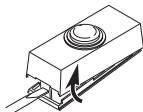
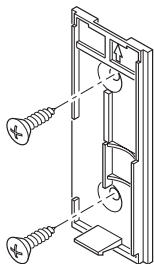

Figure 1
Figure 4
1. **Install alkaline type A23 12 volt push button battery (included).** Remove back of case by pushing in tab on bottom with a small screwdriver (see Figure 1). See diagram inside push button for correct battery orientation. *Note:* If batteries are preinstalled, remove orange battery tab.
- **Screw Mounting:** To mount with screws, remove back of case by pushing in tab on bottom with a small screwdriver (see Figure 1). *Note:* Remove material in screw holes (if needed) before mounting with screws. Attach back of case to door jamb or wall (see Figure 4). Snap front of push button on.